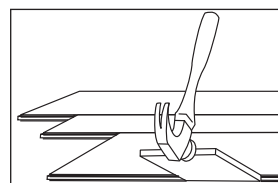

Figure 18
- It may be necessary to align the product with a cut-off piece of scrap as shown (Figure 18 - Keep scrap angle low to avoid edge damage).